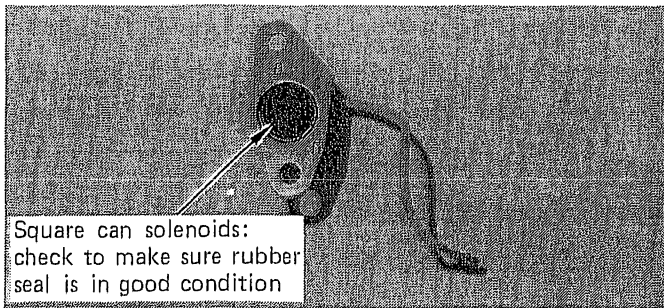

FIGURE 56
**Square Can Solenoids:** Check to make sure the built-in rubber seal is in good condition and has no nicks or cuts. (See Fig. 56) If the seal is damaged, you will have to replace the solenoid. If the seal leaks, your transmission will be in passing gear all the time. Install detent solenoid in position. **Do not** use the aluminum gasket supplied with the kit. Install 1/4-20 retaining bolts **finger tight**.